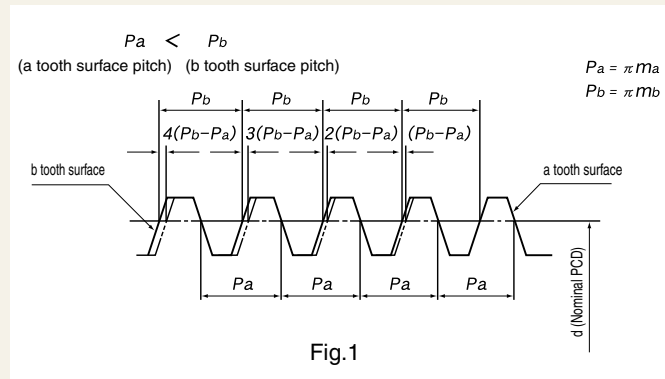

Fig.1
- ① If you are reboring, it is important to pay special attention to locating the center in order to avoid runout. (Fig.1)
The dual-lead worm is formed to give a difference between the right tooth surface and left tooth surface so that it provides a unique tooth profile in which the tooth thickness varies continuously, corresponding with the lead difference (Fig.1)